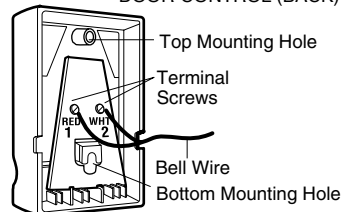

Figure 4 REMOVE COVER
- Remove white cover by gently prying on a side corner near the top of the cover with a small flat head screwdriver (Figure 4). Fasten with 6ABx1-1/4" self-tapping screws (drywall installation) or 6-32x1" machine screws (into gang box) as follows: